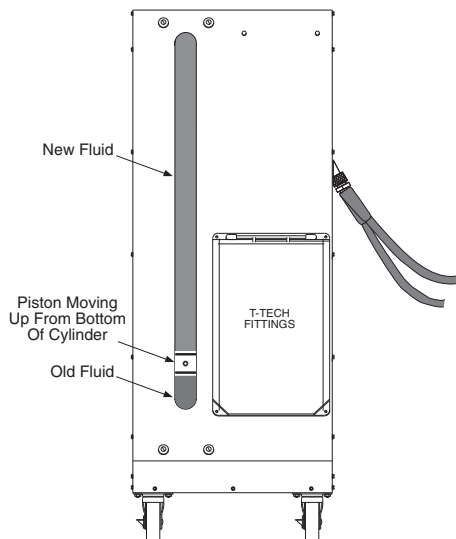

Figure 49. Piston Movement
4. The piston should begin to move upward in the cylinder (see Figure 49). Notice that the old fluid enters the cylinder under the piston. The old fluid pumped in by the vehicle transmission pushes up on the piston, which in turn pushes an equal amount of new fluid out the top of the cylinder and into the vehicle.